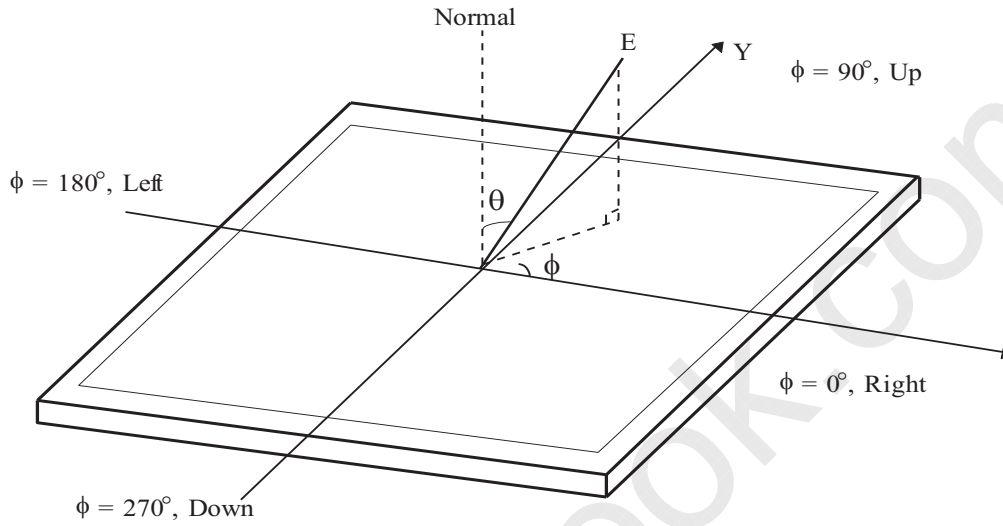

FIG. 9 Viewing Angle
5. Viewing angle is the angle at which the contrast ratio is greater than 10. The angles are determined for the horizontal or x axis and the vertical or y axis with respect to the z axis which is normal to the LCD module surface. For more information, see the FIG. 9.